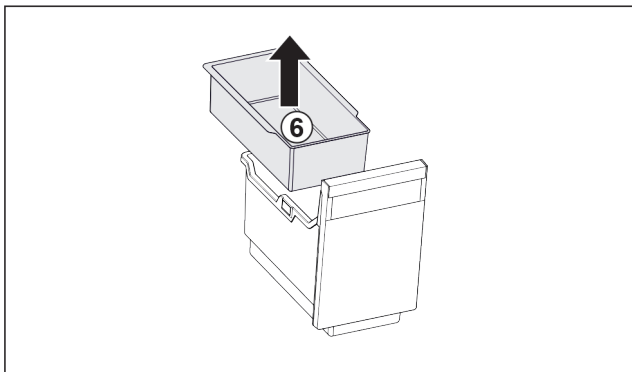

Fig. 94
- ▶ Remove the hang-on tray *Fig. 94 (6)*.